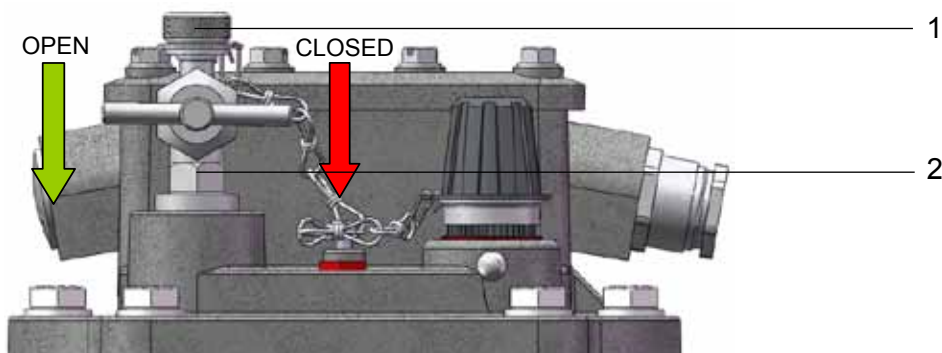

Figure 4 - Bleeder valve
- Remove the small cap nut (Fig. 4/ No.1) from the bleeder valve (Fig. 4/ No. 2).